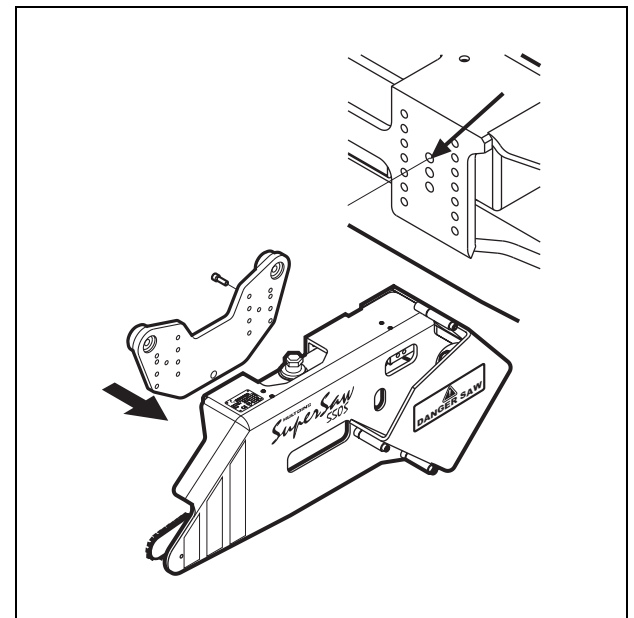

Fig. 16 Assemble the grapple bracket to the SuperSaw 550S
3. Assemble the grapple bracket to the SuperSaw 550S. *See Fig. 16.*